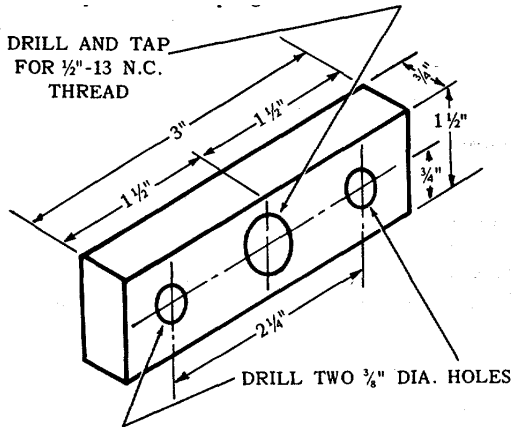
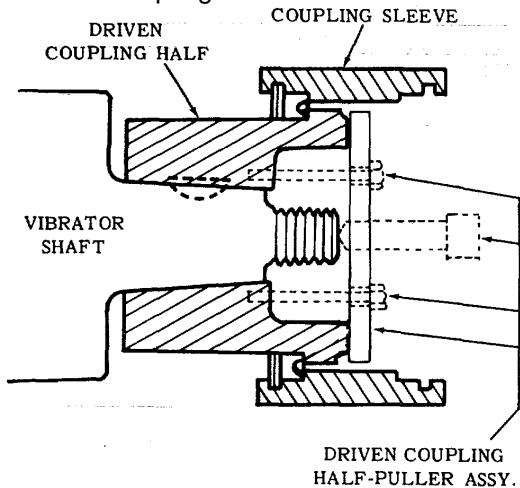

FIGURE 30
FIGURE 31
8. To remove the driven coupling half (E). A puller may easily be made from bar stock, figure 30 below or ordered from Rexnord per part number 102-8419-1. Place puller in hub of coupling half (E), figure 31. Insert two 5/16 - 18 x 2 1/2 " long cap screws thru the 3/8" dia. Holes in puller and thread into tapped holes in coupling half. Thread the 1/2" - 13 x 3" sq. hd. cone point set screw in to tapped hole of puller. Tighten down against shaft to remove coupling half. If necessary give a sharp blow to set screw to unseat coupling from tapered shaft. Remove puller from coupling half.